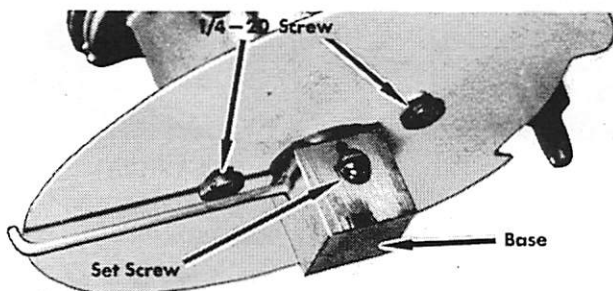

Figure 4. Four-Cylinder Dwell Plate Installation
- (1) Installing dwell plate (C-91-31484A2) (Figure 4)